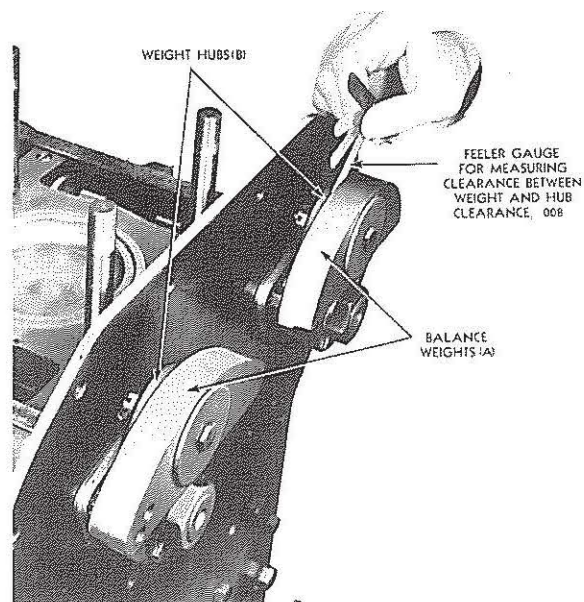

FIG. 10
8. On the 6 cylinder engine, the balance weights "A" articulate on the balance weight hubs "B". Fig. 10. After the balance weight assemblies are locked in place on the shaft a clearance of .008" should be maintained between the weights "A" and the hubs "B". If clear-